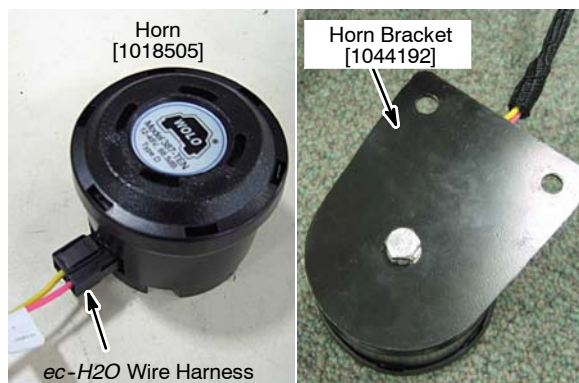

Fig. 32
1. Connect the routed *ec-H2O* wire harness to horn [p/n 1018505] as shown. Using screw and lock washer supplied with horn, attach the horn bracket [p/n 1044192] to horn (Figure 32).